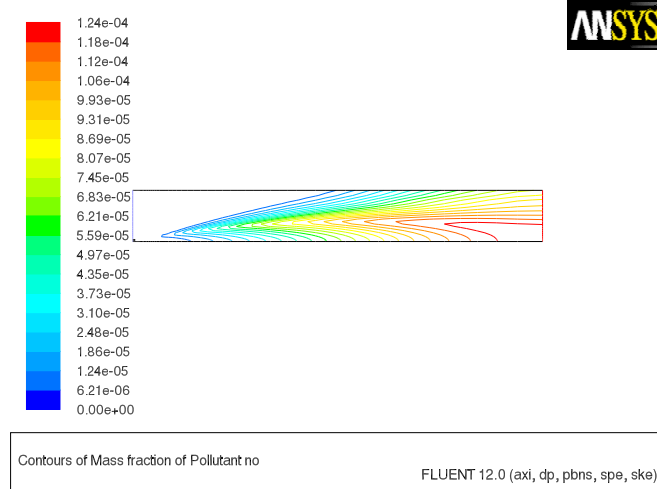

Figure 14.14: Contours of NO Mass Fraction—Prompt NO_x Formation
15. Review the prompt NO_x solution by viewing contours of NO mass fraction (Figure 14.14).
The contours closely resemble the mass fraction contours (Figure 14.14), as expected.